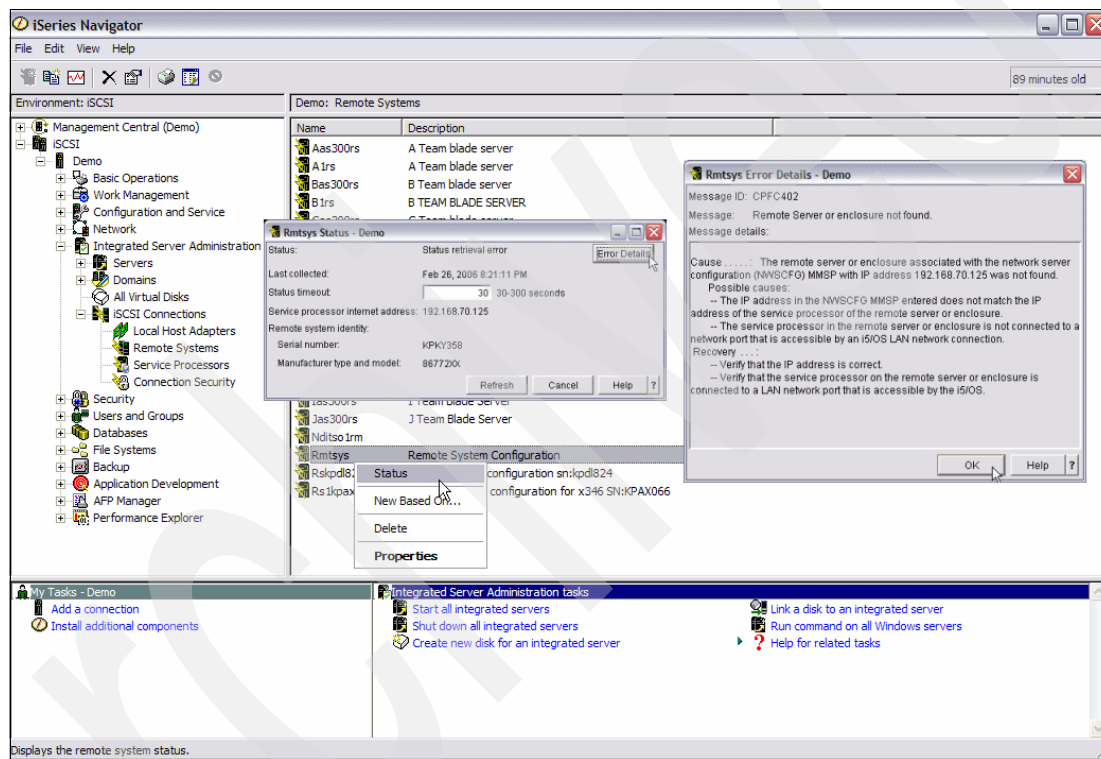

Figure 6-46 Status Remote system and error details
- Click **Remote Systems** and right-click the **Remote system configuration** at the right pane to check the status, select **Status**. See Figure 6-46.